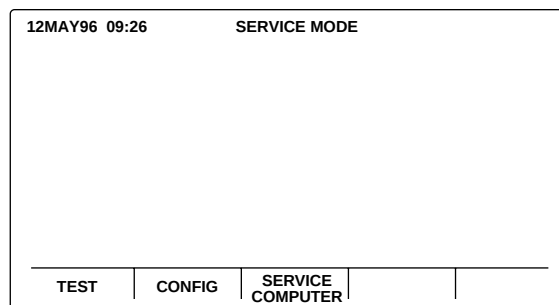

Figure 3-2: Service Mode Main Menu Screen
3. The words “SERVICE MODE” are displayed on the top center of the screen. The current date and time are displayed in the upper left-hand corner of the screen as indicated in Figure 3-2.